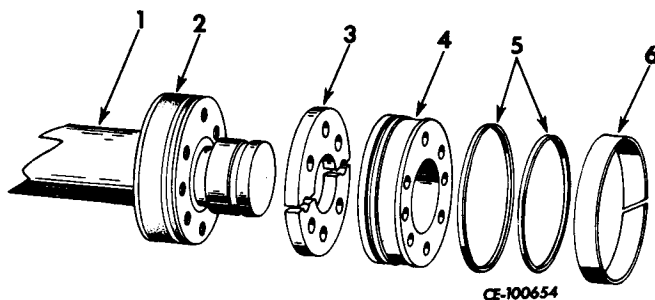

Figure 11-54
Remove and discard used wear rings (6, Fig. 11-54) and seal assemblies (5) from both piston halves (2, 4).